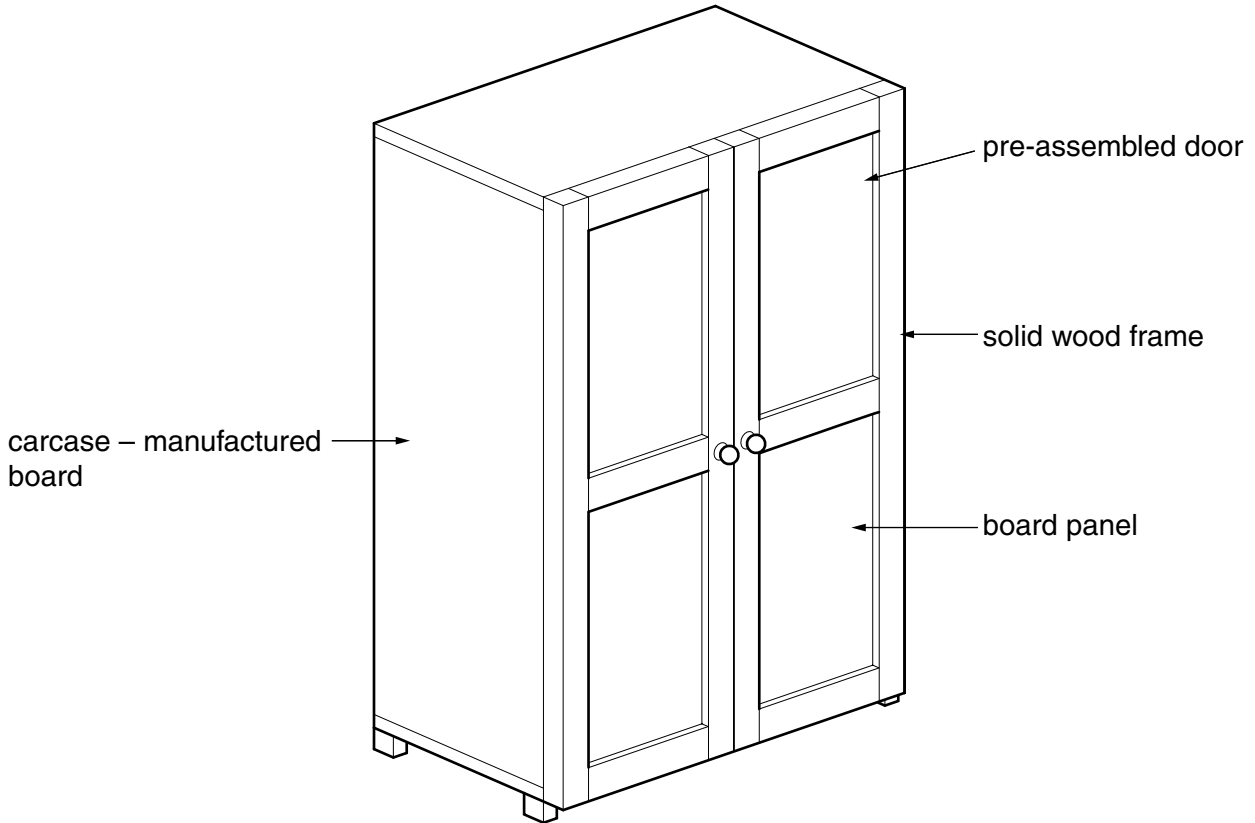

Fig. 1
- 1 Fig. 1 shows a self-assembly wardrobe. The carcase is made from manufactured board.